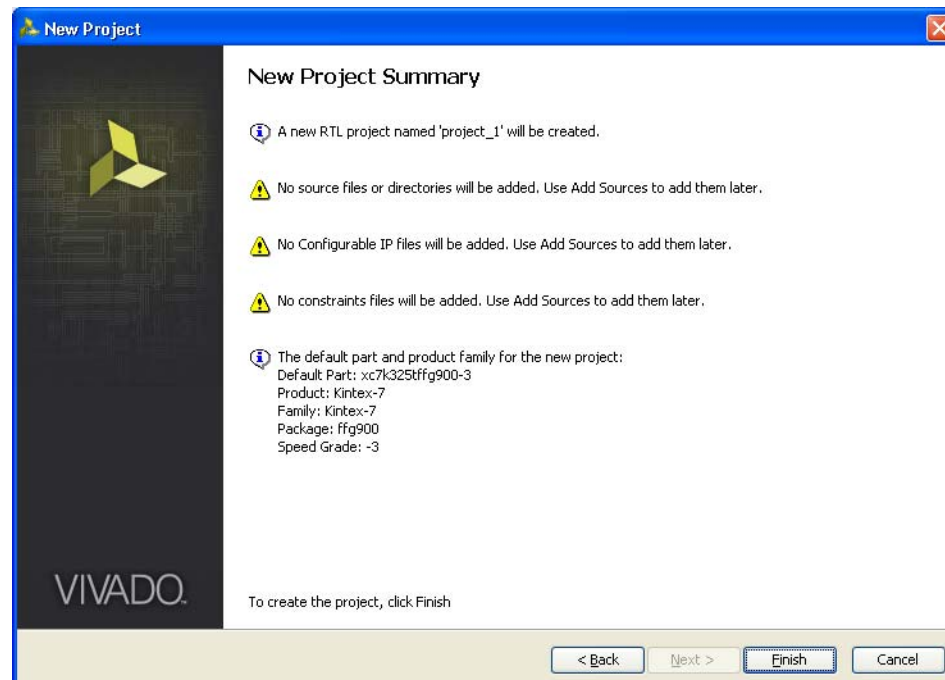

Figure 3-11: New Project Summary
- Click **Next** to open the **New Project Summary** page (Figure 3-11). This includes the summary of selected project details.